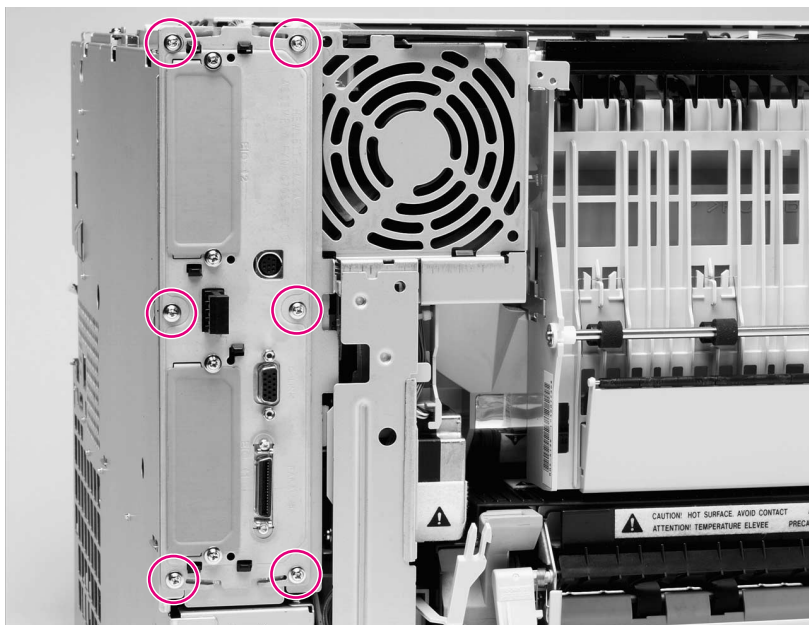

Figure 6-63 Cartridge carousel replacement - formatter pan assembly (1 of 6)
- 10 Remove the formatter assembly (see figure 6-63).